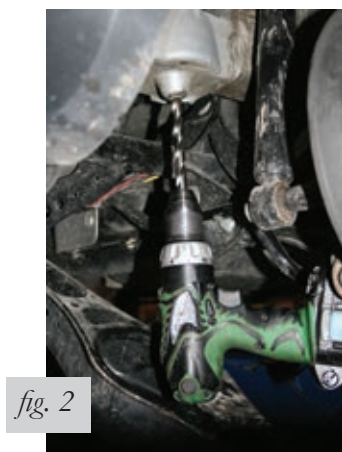

fig. 2
1. Use a 17/32" drill bit to drill the hole precisely in the upper coil spring perch (fig. 2 & 3).